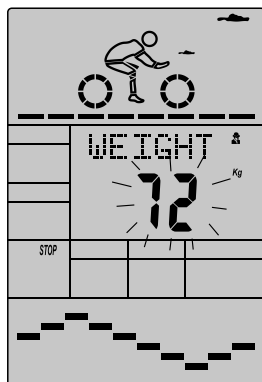

Fig 36
- The weight display will flash, and then press (or rotate) button UP/DOWN to set up your weight. Press ENTER to confirm the value. (Fig 36)